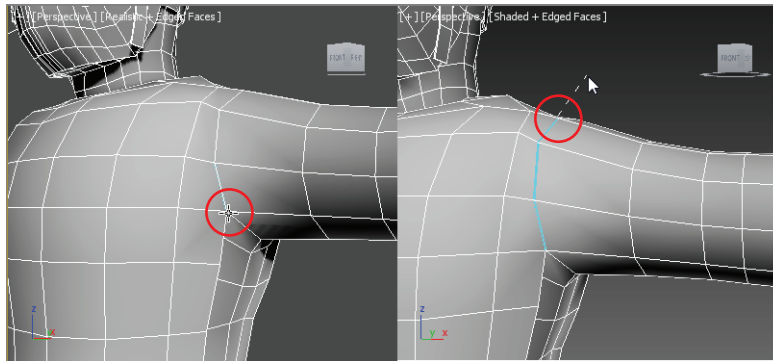

FIGURE 11.3 Pick this edge intersection to begin defining the seam (left). Choose the next point at the upper shoulder (right).
6. With Point-To-Point Seams enabled, click on the center of a pair of intersecting edges about where you want to define the left shoulder, as shown in Figure 11.3 (left image).
7. Select the next intersecting edges in the loop around the shoulder. This creates a blue highlight across the edges, as shown in Figure 11.3 (right image).